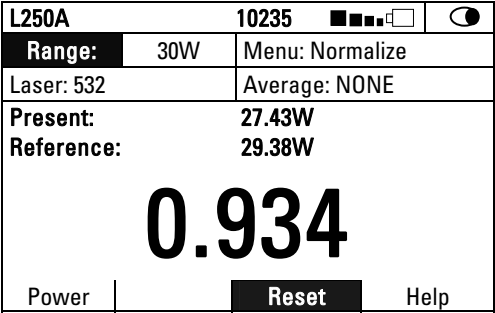

Figure 4.3
- 2. When ready to normalize, press “apply”. From then on, the power will be proportional to the normalized power value (See Figure 4.3).